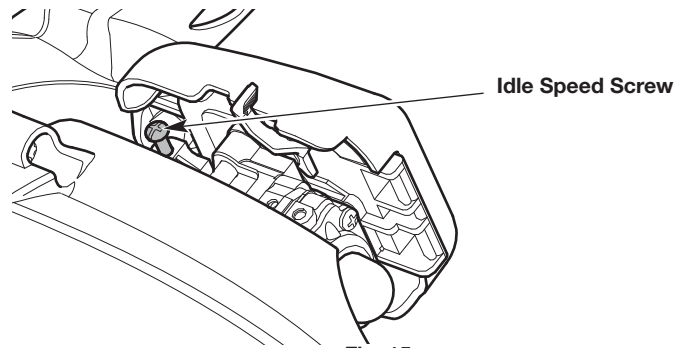

Fig. 15
2. Move the cruise control to the **LO (slow)** position and let the engine idle. If the engine stops, increase the idle speed. Use a small Phillips screwdriver to turn the idle speed screw clockwise, 1/8 of a turn at a time, until the engine idles smoothly (Fig. 15).